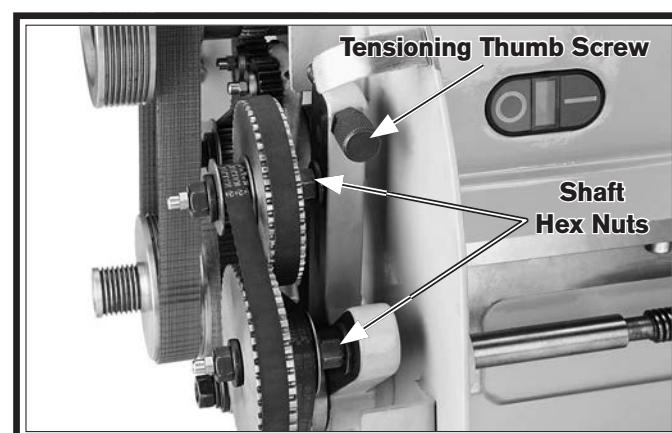

Figure 59. Pulley shaft hex nuts and tensioning thumb screw.
- 3.** Loosen the pulley shaft hex nuts and tensioning thumb screw shown in **Figure 59**.